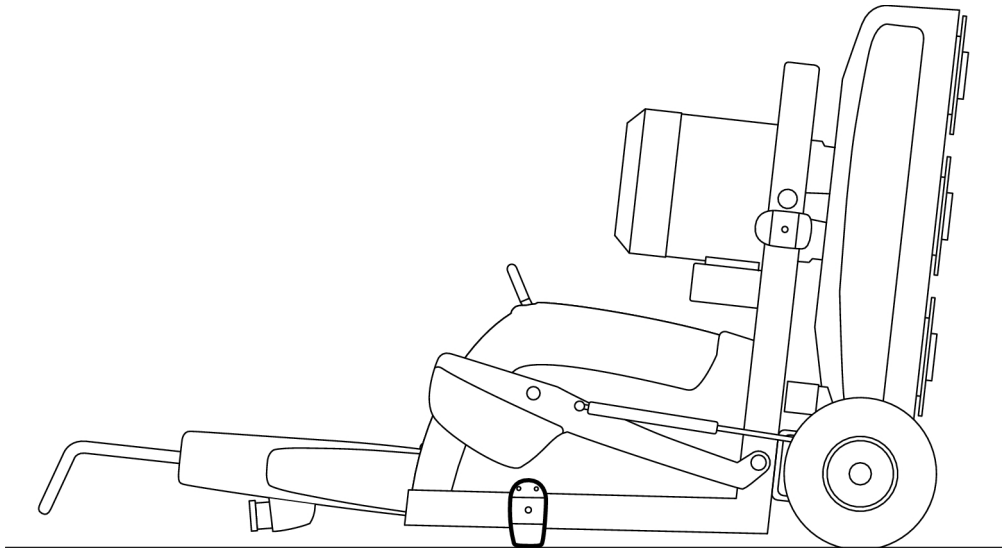

Figure 4-11. Weight lock on the floor
4. Tip the machine further back, until all of the machine reaches the floor, see Figure 4-11, page 23.